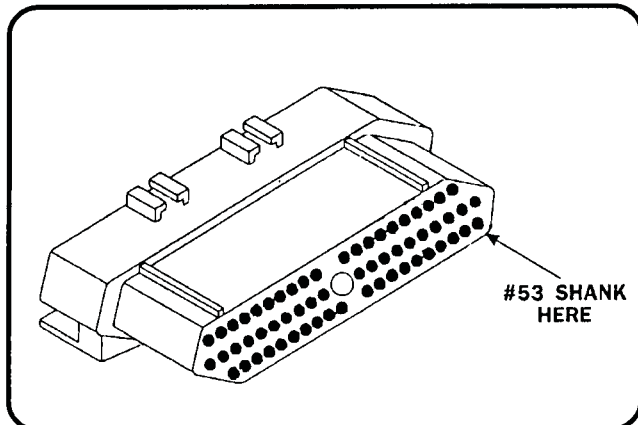

Figure 5
2. To check the 60 pin connector for the transaxle controller, use the shank of a #53 drill bit or a .0595 guage. See figure 5.